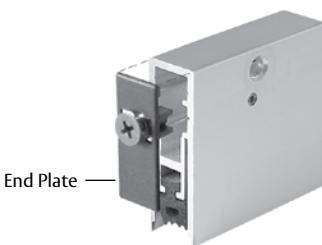

Figure 8 - Properly Installed End Plate
3. Insert the No. 10 x 1/2" flat head screw into the central opening of the endplate and tighten with a small Phillips screwdriver. Insert the end plate into the case at the lock edge side of the door. Power drivers are not suggested as they may over-tighten the screw and possibly break the end plate (as shown in Figure 8).